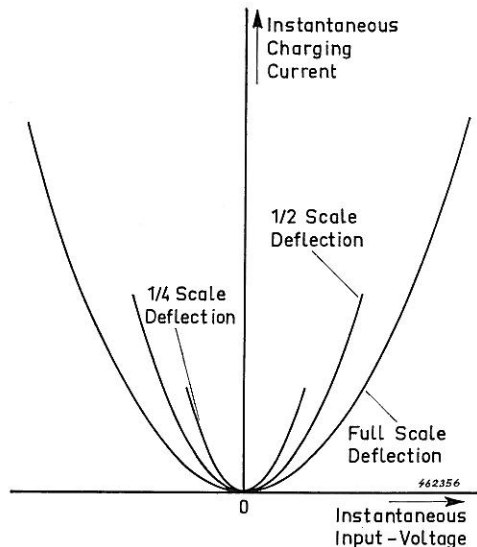

Fig. 19. Ideal RMS rectifier characteristics.
The RMS arrangement is similar to the Peak circuit in as much as the meter itself measures the current drain from a condenser which has the charge so lost replenished from the signal feeding the rectifier. The difference lies in the special manner in which the condenser is charged by this input. It can be shown that for a certain RMS value, i.e. a fixed meter reading, the instantaneous input voltage (which varies from zero to perhaps several times the RMS voltage) should theoretically have a parabolic relationship with the charging current. Furthermore, there should be a particular parabola for each RMS reading: Fig. 19 gives some examples.
*Fig. 21. Oscilloscope photograph of the B & K True RMS rectifier characteristics as used in the Electronic Voltmeter Type 2409/2416. The same quantities are traced as in Fig. 19.*